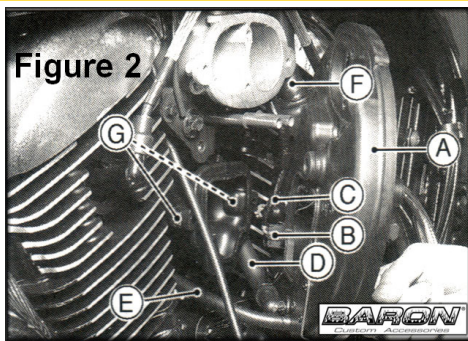

Figure 2
- \*Remove crankcase vent from rear of the backing plate. (D on Fig 2)
- \*Disconnect electrical connection to the valves. (B on Fig 1 and C on Fig 2)
- \*Remove Inlet Air Temperature Sensor from backing plate. (B on Fig 2)